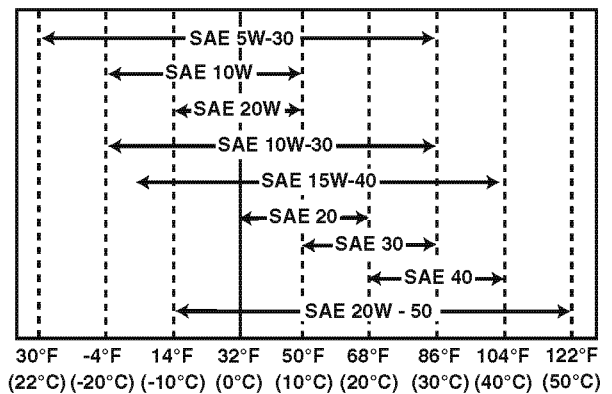

Figure 4-4
- Select the oil viscosity based on the ambient temperature where the engine is being operated. See the SAE service grade viscosity chart (Figure 4-4).
Select the appropriate engine oil viscosity based on the ambient temperature and use the SAE Service Grade Viscosity Chart in Figure 4-4.